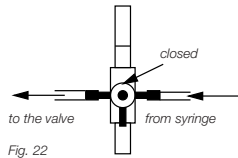

Fig. 22
- d) To release all air from the test assembly, turn the three-way faucet as shown in Fig. 22.
- c) Turn the three-way faucet as shown in Fig. 22 so that the manometer is isolated